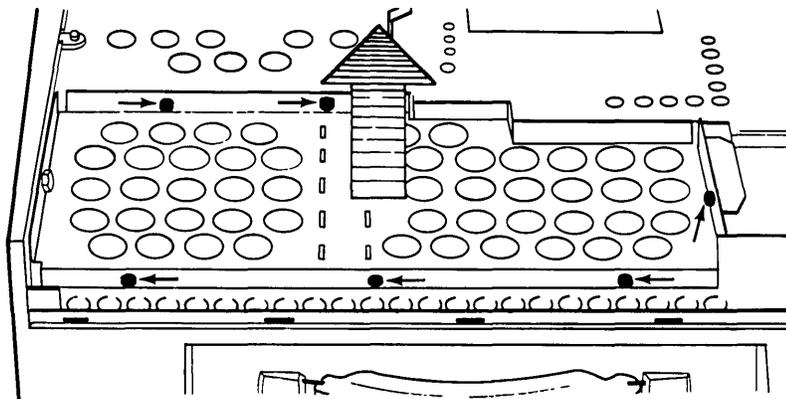

Figure 11-4. Removing the Cover of the PCB Compartment.
2. Loosen (DO NOT REMOVE) the three screws on the back of the PCB compartment cover (see Figure 11-4).
3. Loosen (DO NOT REMOVE) the three screws and one nut on the top edge. Lift the cover off (refer to Figure 11-4).